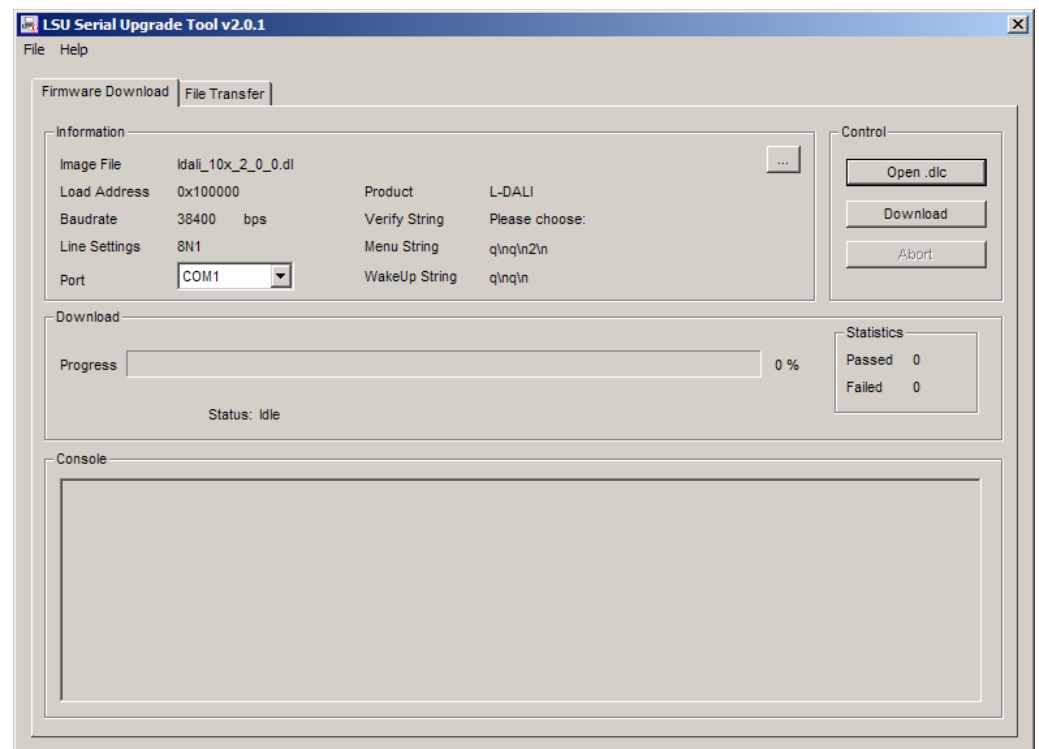

Figure 165: LSU Serial Upgrade Tool in Idle Mode
1. Double click on the *.dlc file that comes with the new firmware package. This should start the LSU Tool and load the firmware image referenced in the dlc file. Please note that the dlc file and the dl file must be stored in the same folder. The start window of the LSU tool is shown in Figure 165.